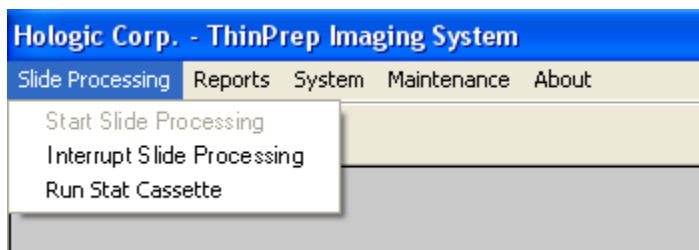

Figure 3-21 Interrupt Slide Processing - Menu Selection
- b. At the top of the menu bar, select Slide Processing and then in the drop-down menu, click once on Interrupt Slide Processing. (Figure 3-21.)